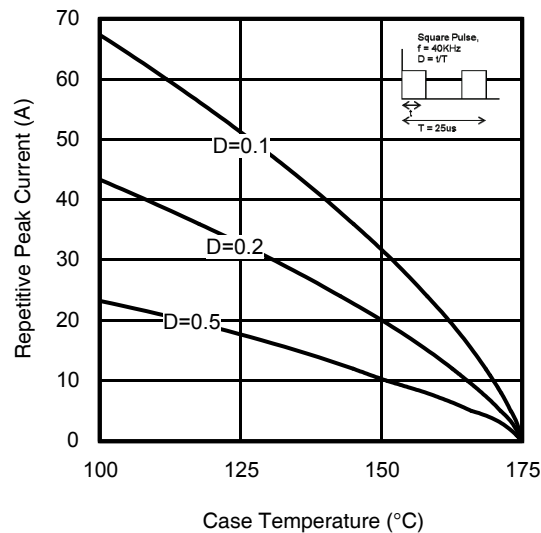

Fig 26. Maximum Diode Repetitive Forward Peak Current vs. Case Temperature
- ① $V_{CC} = 80\% (V_{CES}), V_{GE} = 20V, R_g = 10\Omega, L = 1.0mH$.
- ② R_{θ} is measured at T_J of approximately 90 $^\circ\text{C}$.
- ③ Refer to AN-1086 for guidelines for measuring $V_{(BR)CES}$ safely.
- ④ Pulse width limited by max. junction temperature.
- ⑤ Values influenced by parasitic L and C in measurement.
- ⑥ fsw = 40KHz, refer to figure 26.